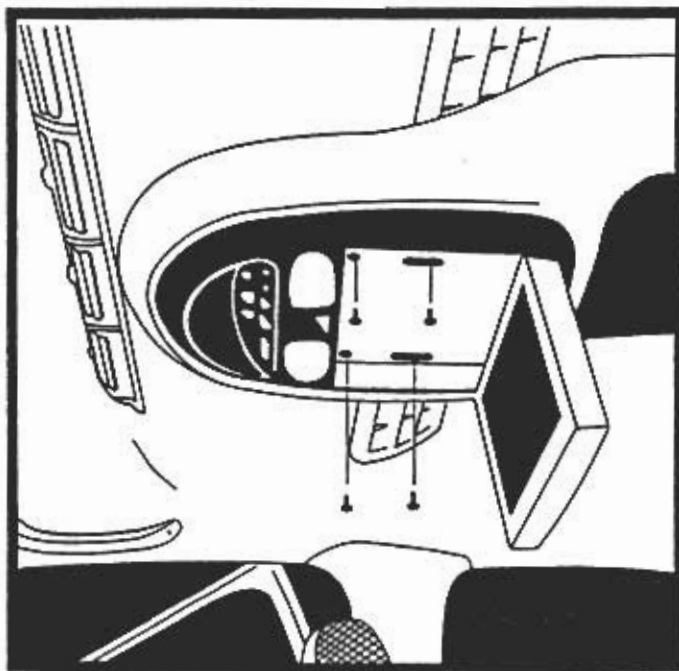

Figure 13
16. Carefully position console against headliner. Release video screen from locked position. Lower video screen to viewing position for access to mounting locations in top of video system housing and align holes in housing with holes in rear mounting bracket. Secure using (4) four # 6 x 1/2" screws (item 1 pg 2). See figure 13.